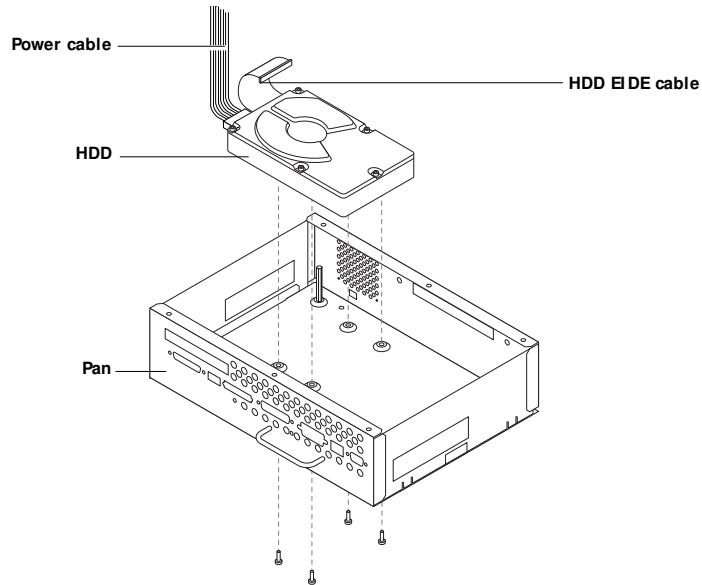

FIGURE 4-11 Replacing the HDD
4. With the pan on its side, remove the four screws on the bottom of the pan that secure the HDD (see Figure 4-11).
3. **With the pan on its side, align the four holes in the bottom of the HDD with the holes in the bottom of the pan and replace the four screws you removed earlier (see Figure 4-11 on page 4-22).**